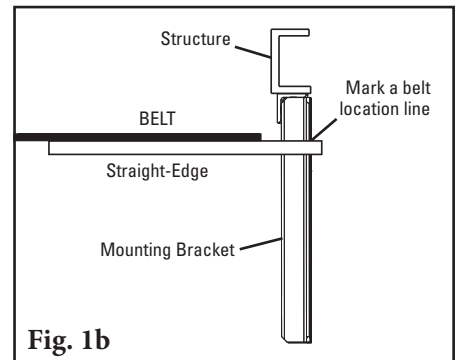

Fig. 1b
**1b. Transfer the belt location line to the mounting bracket.** Using a straight-edge pushed up to the bottom of the belt, mark the mounting bracket (Fig. 1b). Repeat on opposite side.